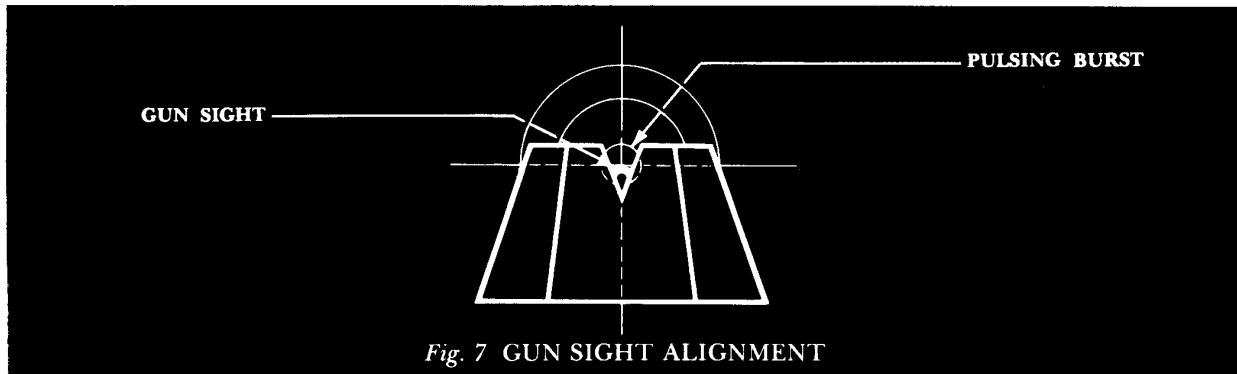

Fig. 7 GUN SIGHT ALIGNMENT
5. Aim the Gun Sight to center of crosshair, pull Gun Trigger once and Gun Sight will be aligned to the last burst (See Fig. 7).